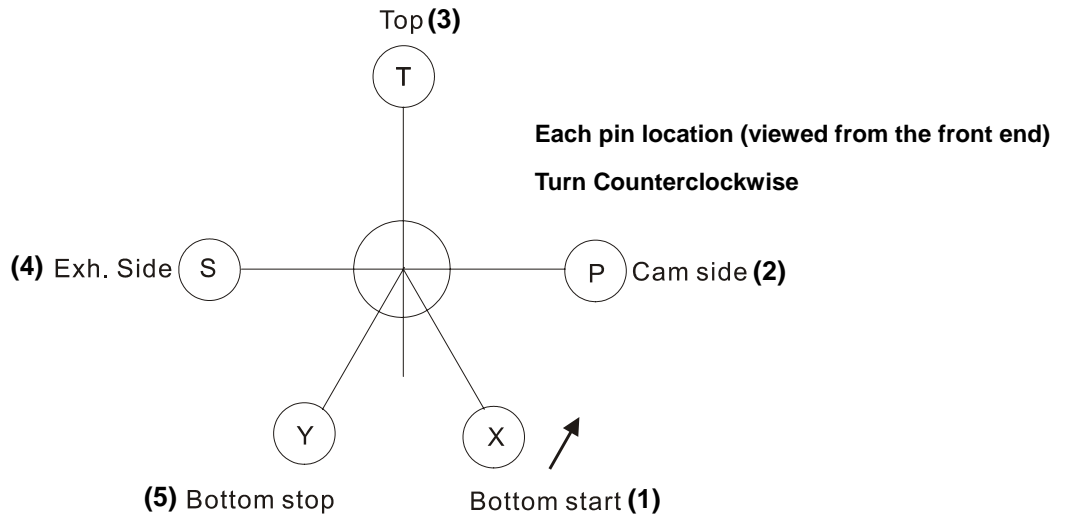

Fig.2 The measuring positions for deflection of crankshaft
2. Rotate the crankshaft to measuring position 1 as shown in fig.2